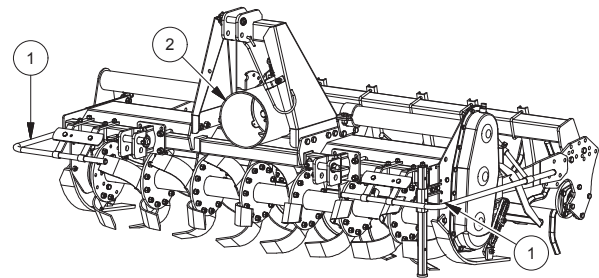

FIG. 17
- PTO guard tractor side (2, "Fig. 17").
- Protective tubes against access to the hoes area (1, "Fig. 17").
- Driveshaft Protections (3, "Fig. 17")